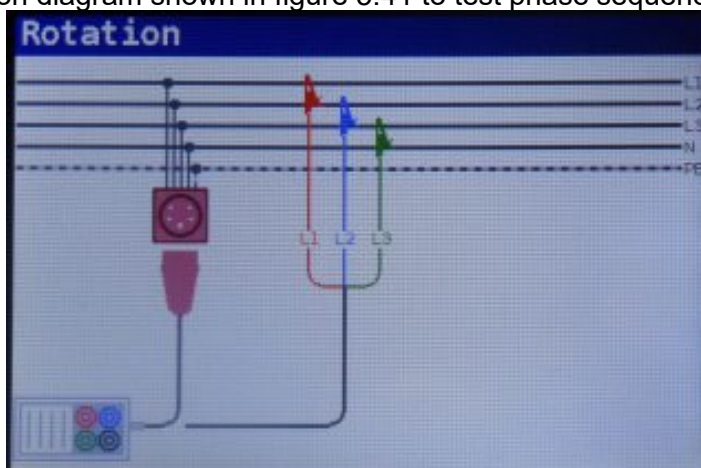

Figure 5-41: Connection of universal test cable and optional three phase cable
- Step 2** Connect test cable to the VOLTCRAFT IST instrument and follow the connection diagram shown in figure 5.41 to test phase sequence.